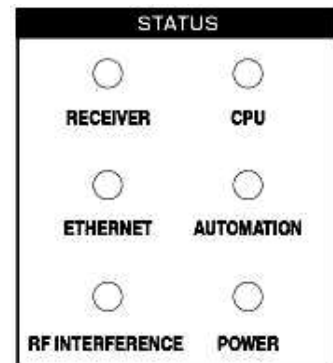

Figure 3-2
3.1.2 Status Panel: Contains LEDs that indicate fault conditions as described below: See Figure 3-2.